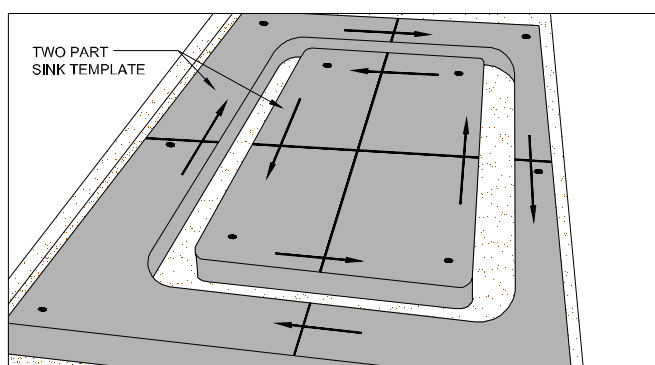

Figure 9B
- Make a two part template to route the substrate for your sink cutout in the pre-bonded laminate countertop. (FIG. 9B)